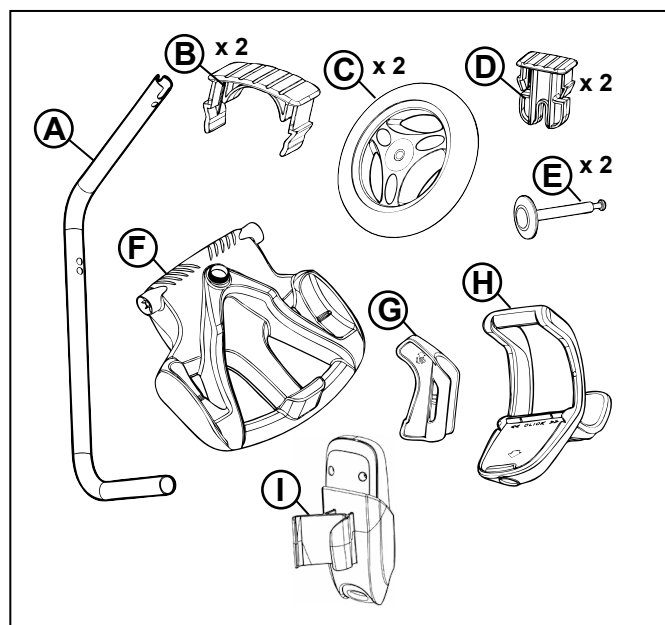

Figure 1. Transport Caddy Assembly Components
- Transport and storage caddy assembly components (Figure 1)